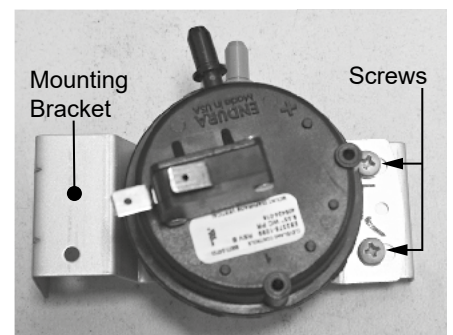

Figure 3 - Pressure switch mounting bracket
- 12** Reconnect the pressure tubing as shown in Figure 3.